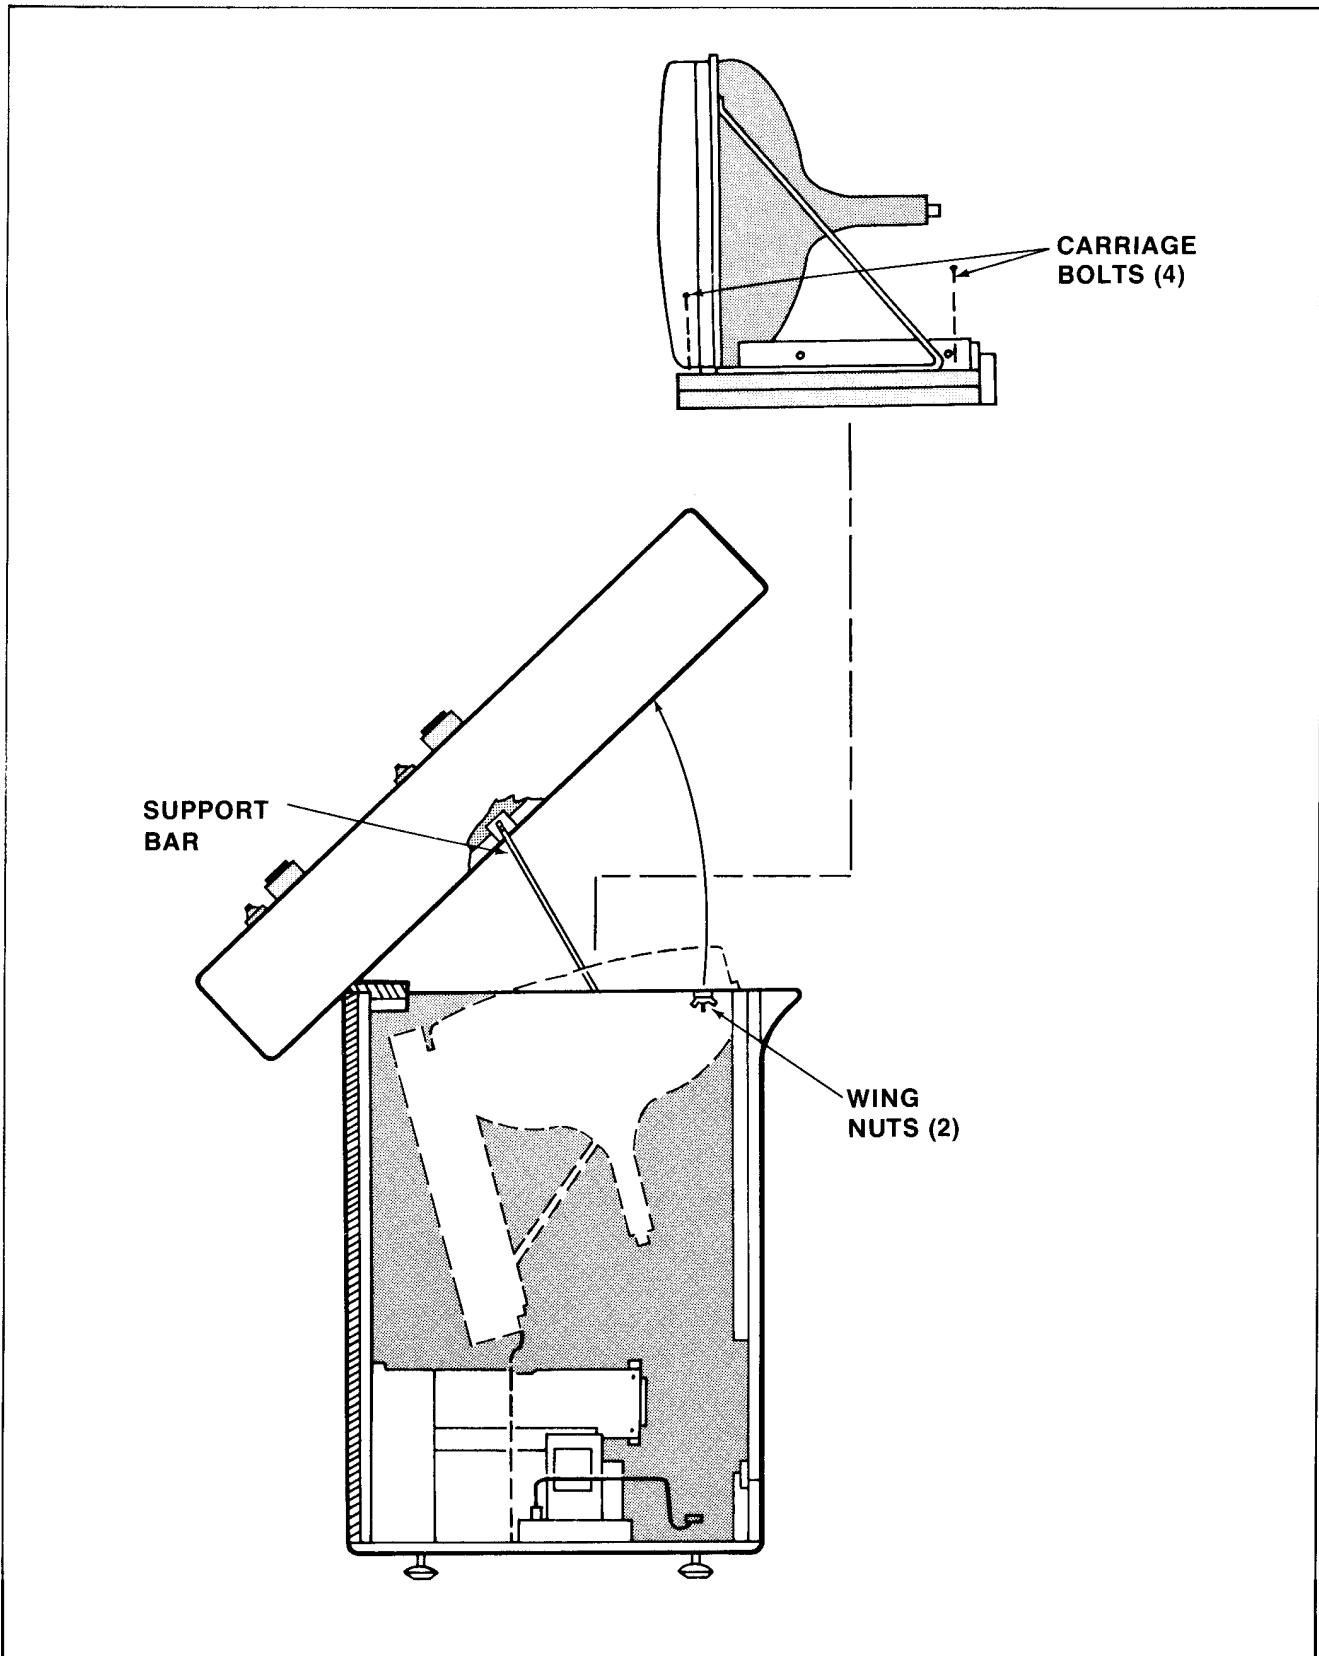

Figure 3-11 TV Monitor Removal
E. TV MONITOR REMOVAL (See Figure 3-11)
3. Starting from the back of the cabinet, raise the top assembly. The support bar should be used for safety while working inside the cabinet (see Figure 3-11).